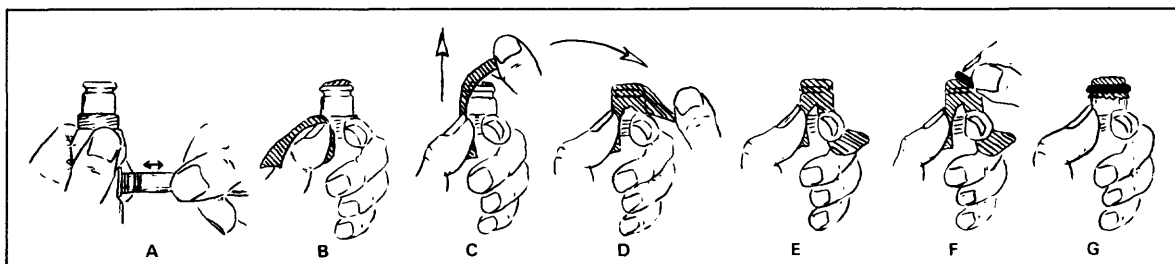

Figure 6
- A Grasp the probe in your left hand. (See Figure 6.) When preparing the YSI 5739 probe the pressure compensating vent should be to the right. Successively fill the sensor body with electrolyte while pumping the diaphragm with the eraser end of a pencil or similar soft, blunt tool. Continue filling and pumping until no more air bubbles appear. (With practice you can hold the probe and pump with one hand while filling with the other.) When preparing the YSI 5720 and 5750 probes, simply fill the sensor body until no more air bubbles appear.